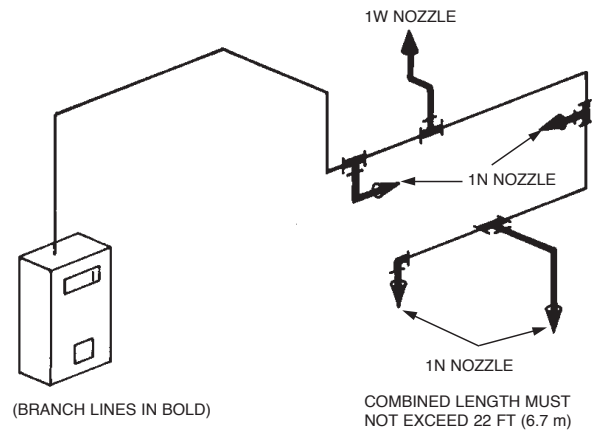

FIGURE 4-159
5. The combined length of all branch lines must not exceed 22 ft (6.7 m). See Figure 4-159.